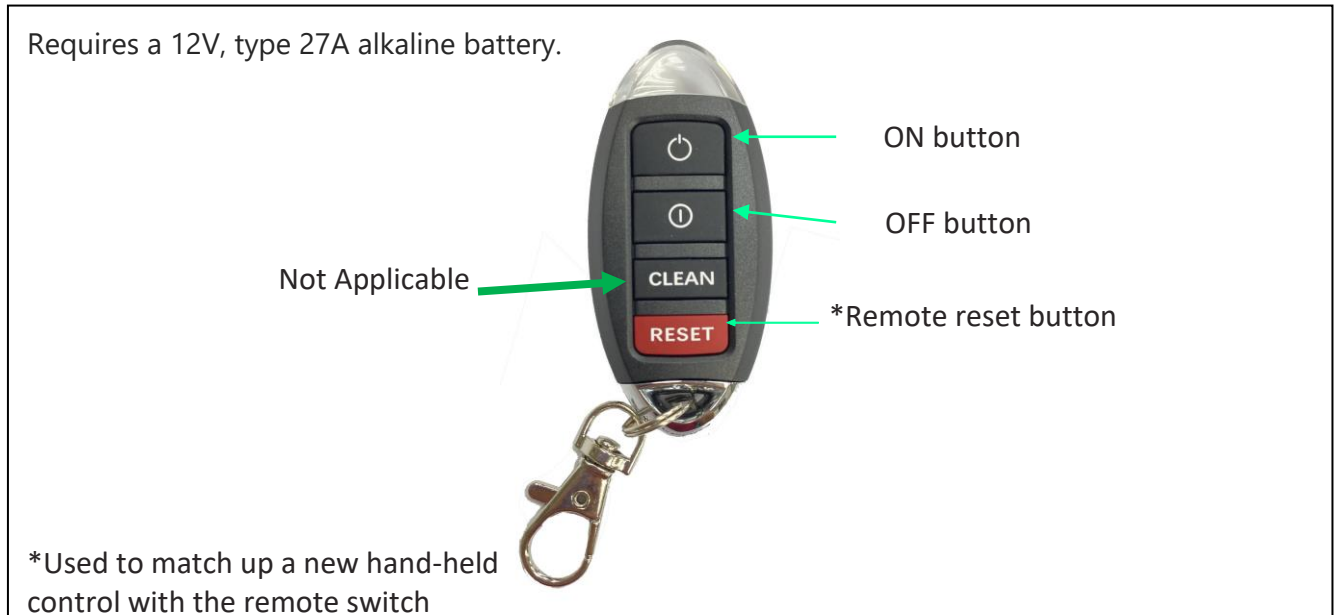

Figure 40: Hand-Held Remote Control
2. Press and hold the Receiver "set" button (Fig. 40) on the bottom of the ON/OFF control box until you hear beeping.
3. Press the remote control "Reset" button (Fig. 40) simultaneously with the receiver "set" button until you hear beeping. Release both buttons to complete the set up.